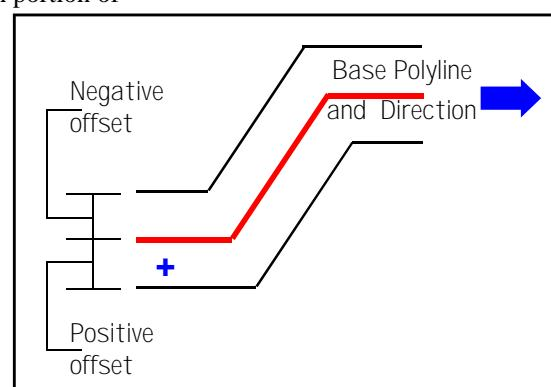

Figure 7
- If the **All of the Polyline** option is selected, a small blue cross denoting the positive offset direction is displayed slightly offset from the base polyline, and near the pick of the base line selection, (see Figure 7). Note that the setting